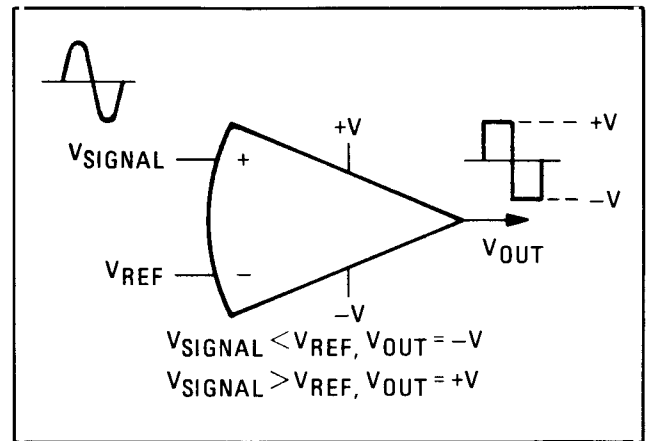

Figure 8-31. Non-Inverting Comparator
**Comparators.** Comparators are used as level sense amplifiers, switch drivers, pulse height discriminators, and voltage comparators. A voltage reference is connected to one of the amplifier's inputs as shown in Figures 8-31 and 8-32. When the other input signal voltage crosses the reference, the output is switched to the opposite polarity; the output remains at this polarity until the input signal re-crosses the reference.